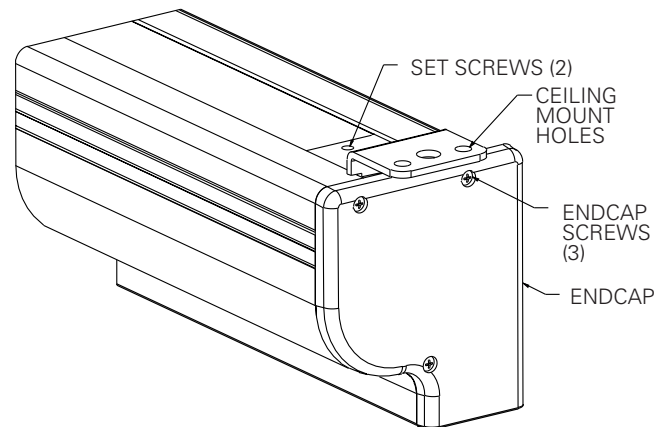

FIGURE 2
2. The top of the screen case has a channel that the ceiling mount brackets slide into. Remove the end cap on the right end of the case and insert the brackets into the case channel. Lock the brackets in place by tightening two set screws. Refer to figure 2.